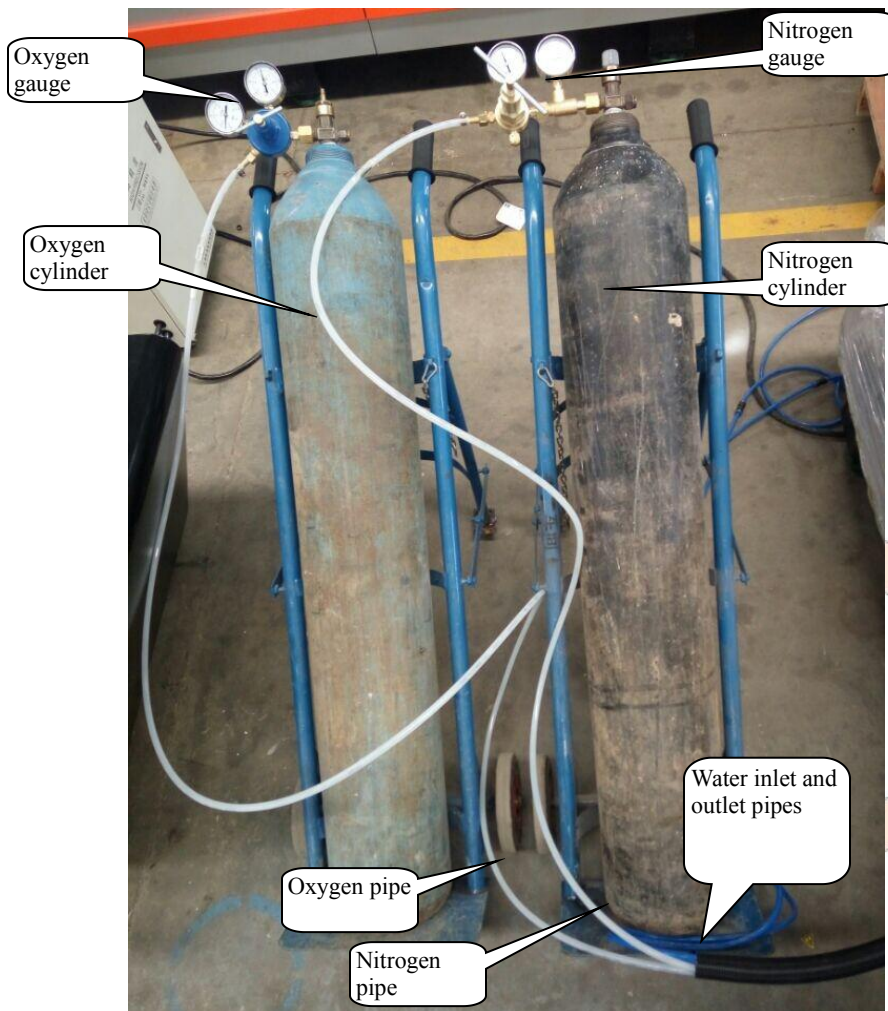
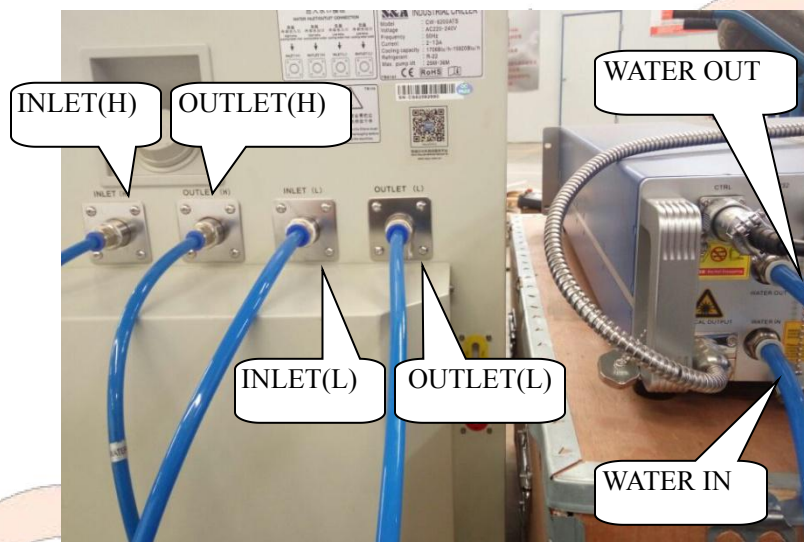

Figure 2-1 Example for Connection of Gas Supply Device
Figure 2-3 Example for Connection between Water Chiller and laser source
Two white gas lines will be introduced from the lathe bed, one for nitrogen connection, and one for oxygen connection. A nitrogen gauge can be used to connect the nitrogen line with device providing nitrogen (air); an oxygen gauge can be used to connect the oxygen line with the device providing oxygen (Figure 2-1).
HP and LP water circuits are output from the water chiller. The LP water circuit (two blue pipes to the lathe bed, as shown in Figure 2-1) flow to the fiber pigtail and cutting head, the water inlet and outlet directions shall be noted, the water shall flow through fiber pigtail can then the laser cutting head. The LP water circuit flows (Figure 2-3) to the laser source, the water circuit connection modes will be different according to the brands and types of the laser source, and the waterway flow direction and label shall be noted to ensure correct connection of the water pipe attached to the machine.
For example: As shown in Figure 2-3, OUTLET(L) interface at left side of water chiller shall be connected to the WATER IN interface at right side of laser source, and the INLET(L) interface of the water chiller shall be connected to the WATER OUT interface to ensure the circulation and flow of water.